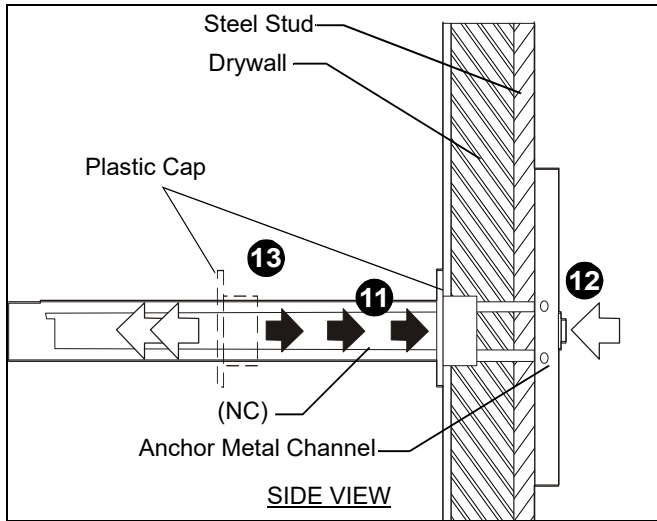

Figure 13
11. Slide anchors (NC) into drilled holes. (See Figure 13)
12. Holding plastic straps on anchor (NC), pull anchor away from wall until channel rests flush behind wall making sure anchor channel is positioned vertically on stud. (See Figure 13)
13. Slide plastic cap on anchor (NC) towards wall until flange of cap is flush with wall. (See Figure 13)